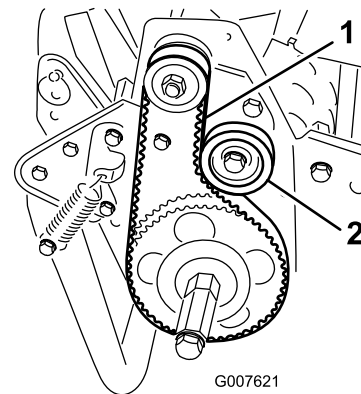

Figure 38
2. Check the tension by pressing the belt at mid span of the pulleys (Figure 38) with 18–22 N (4 to 5 lbs) of force. The belt should deflect 6 mm (1/4 inch).
- A. Loosen the idler pulley mounting nut and pivot the idler pulley clockwise against the backside of the belt until the desired belt tension is attained (Figure 38).